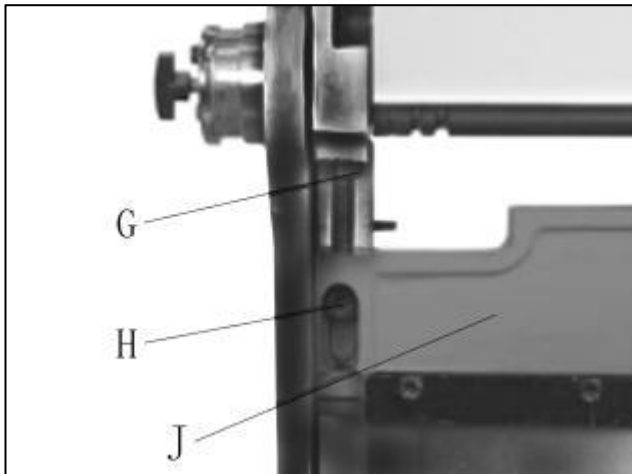

Figure 6
**To adjust brake beam (G, Figure 6) for 90° bends at bottom of stroke:**
1. Slightly loosen locking screws (H) using 6mm hex key.
2. Turn brake beam adjusting screws (G) with 16mm wrench, until test bend reflect 90° bend at both ends of brake.
3. Re-tighten screws (H).